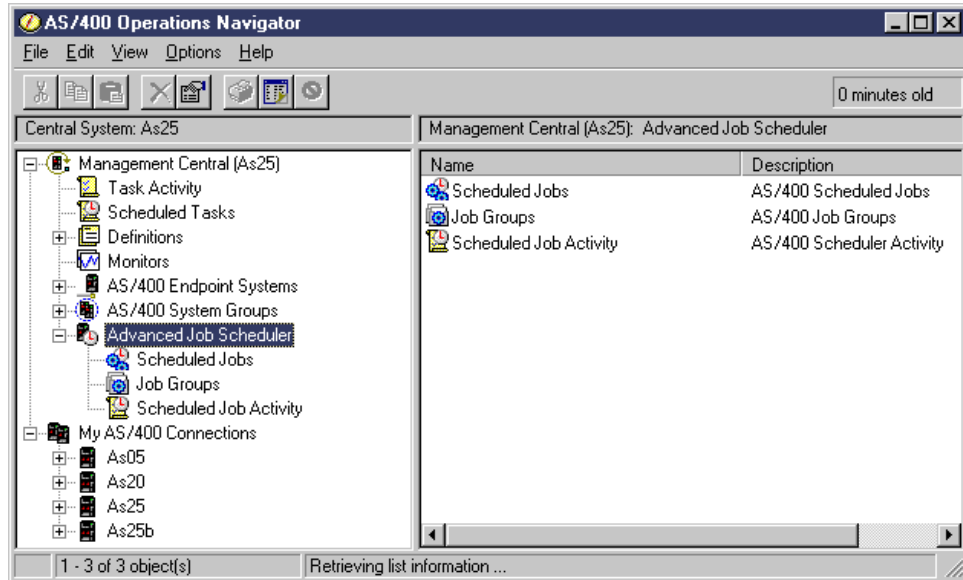

Figure 130. Advanced Job Scheduler container under Management Central
13. You should see an Advanced Job Scheduler container appear under the Management Central. See Figure 130 on page 166 for an example.